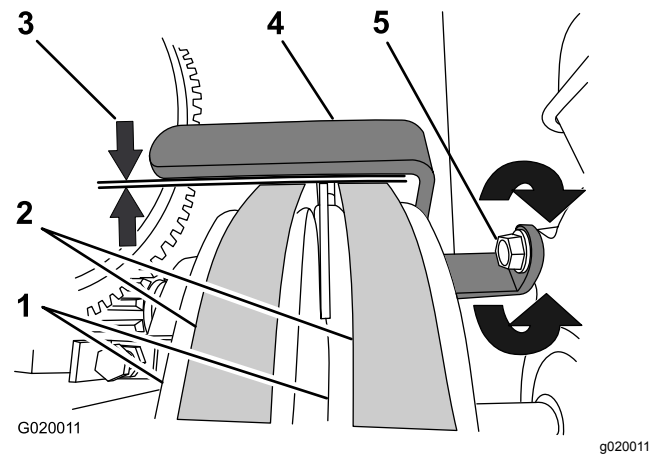

Figure 67
6. Check that the air gap between the belt guide and the belts is 2.5 to 4.0 mm (3/32 to 5/32 inch); refer to Figure 67.
- A. Loosen the bolt that secures the belt guide to the engine (Figure 67).
- B. Rotate the belt guide up or down until there is an air gap of 2.5 to 4.0 mm (3/32 to 5/32 inch) between the guide and each belt (Figure 67).
- C. Tighten the bolt that secures the belt guide to the engine (Figure 67).